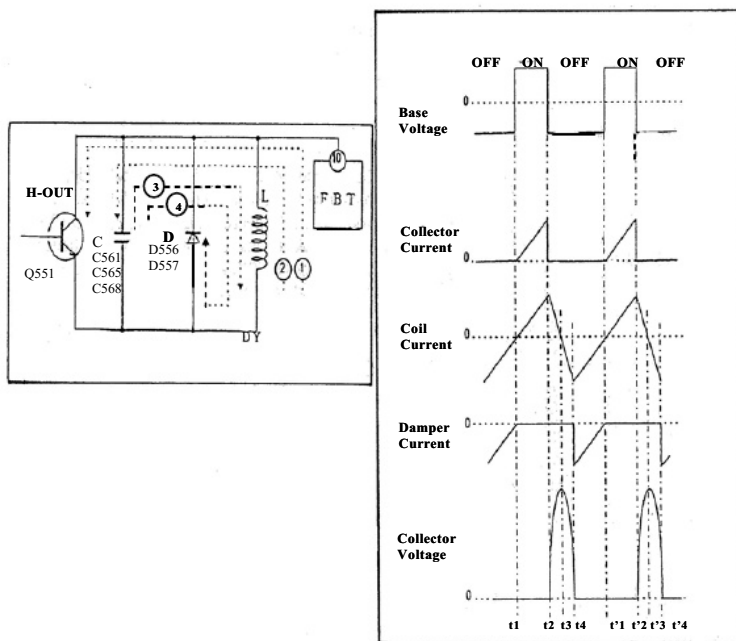

Fig 4.1
1. Tr (Q551) base input does not work until it exceeds a certain level [Fig 4.1].